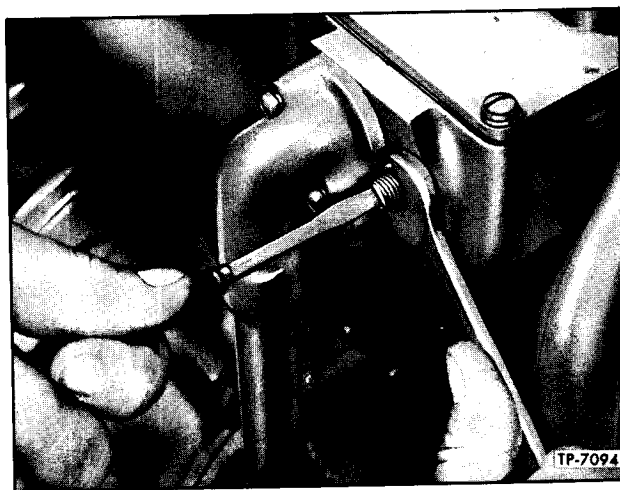

Figure 49—Adjusting Buffer Screw
Do not raise engine speed more than 20 RPM with the buffer screw, otherwise it may not be possible to stop the engine. Hold screw (46) and tighten locknut (fig. 49). Stop and start engine several times to be sure of its stopping.